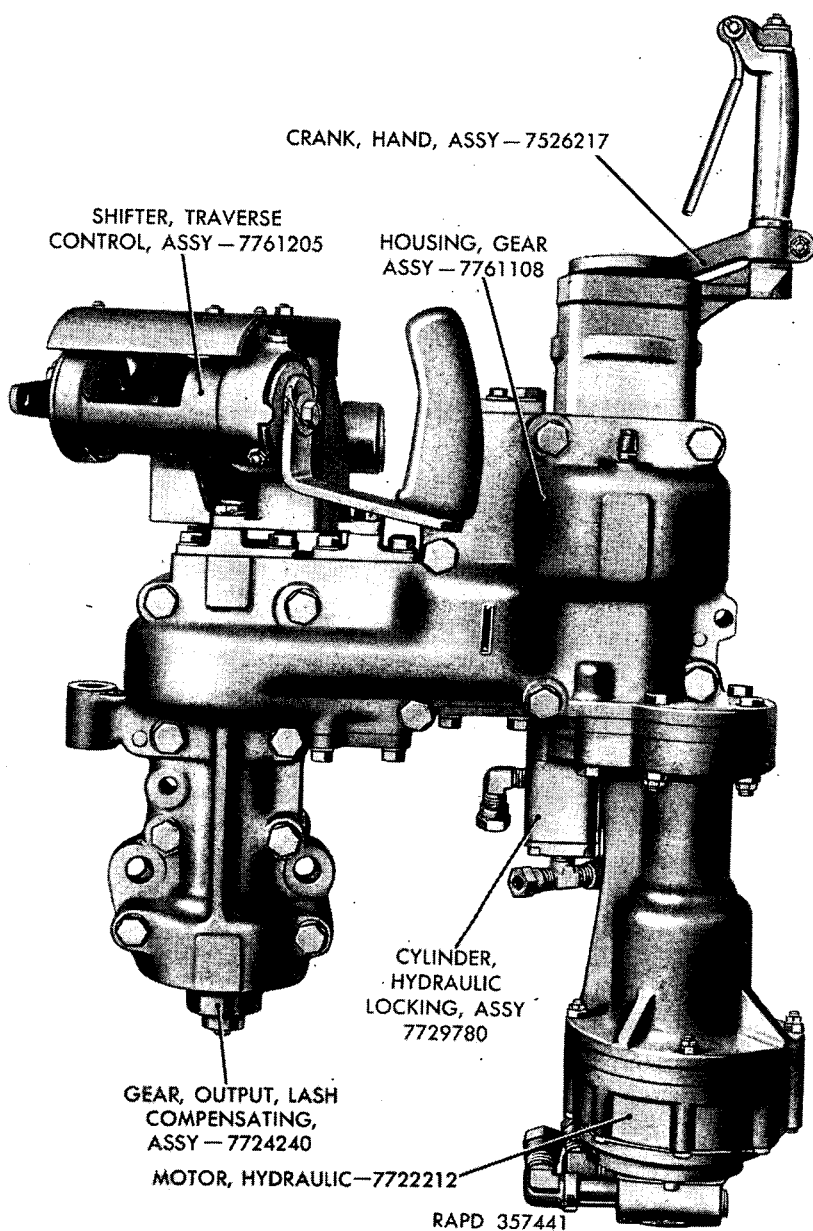

Figure 4. Front of traversing gear mechanism.
c. MANUAL TRAVERSING MECHANISM (figs. 4 and 5). In case of power failure, the gunner or commander can traverse the turret by